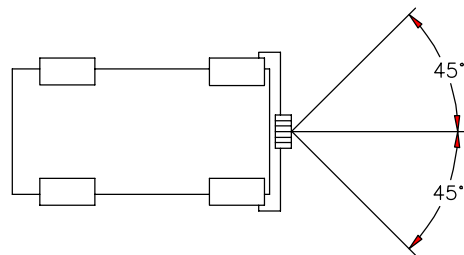

FIGURE 3
- 45° Angle left or right from straight ahead (See Figure 3).